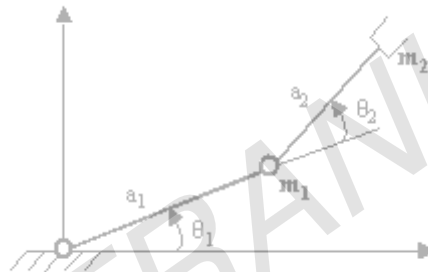

Figure 1
1. Determine the dynamic equations for the two-link manipulator shown in Figure 1, when each link is modeled as a rectangular solid of uniform density. Each link has dimensions a_i , b_i and h_i and total mass m_i . [16]